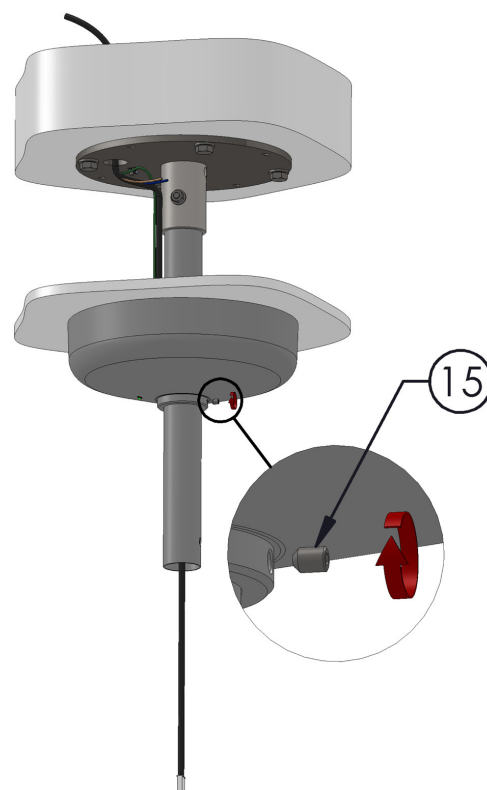

Fig. 13.0
15. Push the ceiling cover up against the ceiling and tighten the grub screw to lock it in place, as shown in Fig.13.0.